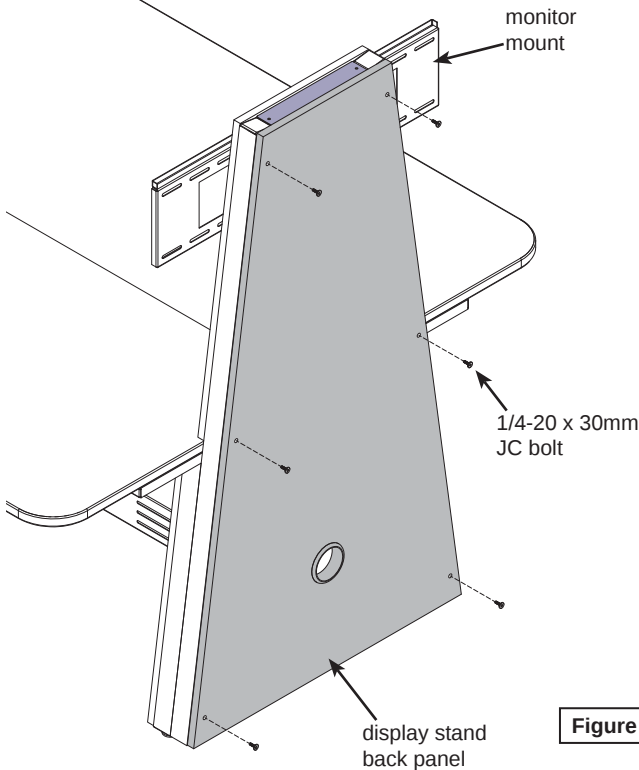

Figure 2
- B. Remove the display stand back panel by removing the (6) 1/4-20 x 30mm JC bolts (retain these bolts) and set aside. **Figure 2.**